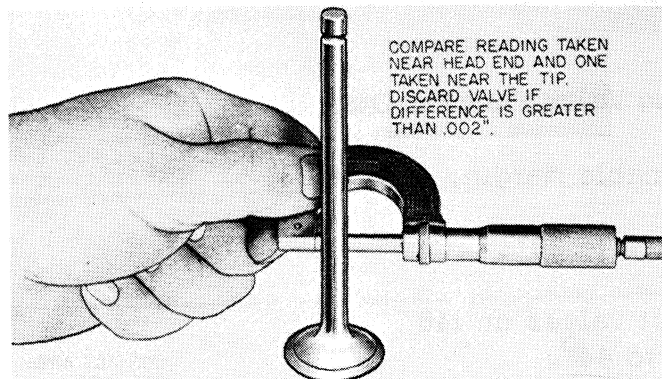

Figure 28 - Checking Valve Stem Diameter
6. Using a micrometer, check the diameter of the valve stem near the valve head and compare the reading taken near tip end of valve. If difference is more than .002 discard valve. Figure 28.